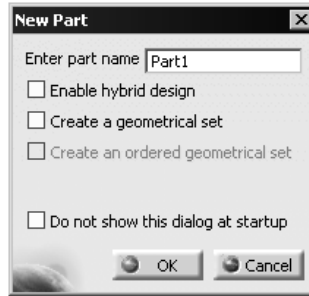

Figure 2-34 The **New Part** dialog box
2. Choose **File** > **Close** from the menu bar; the start screen of CATIA V5 is displayed. Choose **Start** > **Mechanical Design** > **Part Design** to make sure that you are in the **Part Design** workbench; the **New Part** dialog box is displayed, as shown in Figure 2-34.